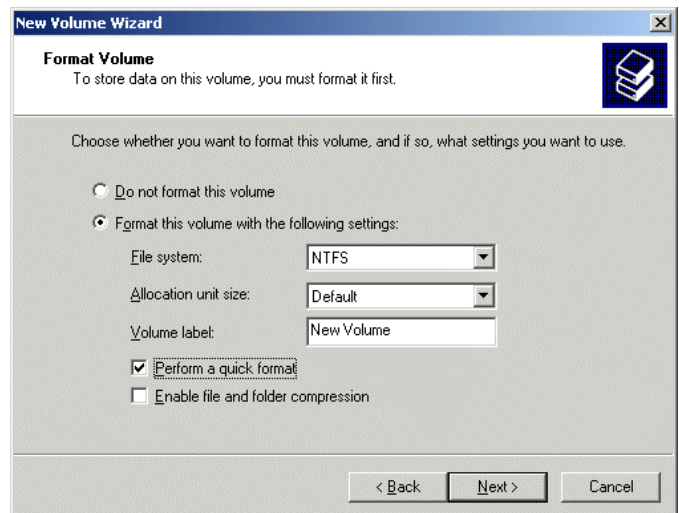

Figure 6-28
- 30) Click the **Next** button to be presented with the **Format Volume** screen. Click the **Format this volume with the following settings** item as shown in Figure 6-28. Ensure that the settings are **File system = NTFS**, **Allocation unit size = Default**, and **Volume Label = user defined** (the default is "New Volume"). Also ensure that the **Perform a quick format** item is selected.